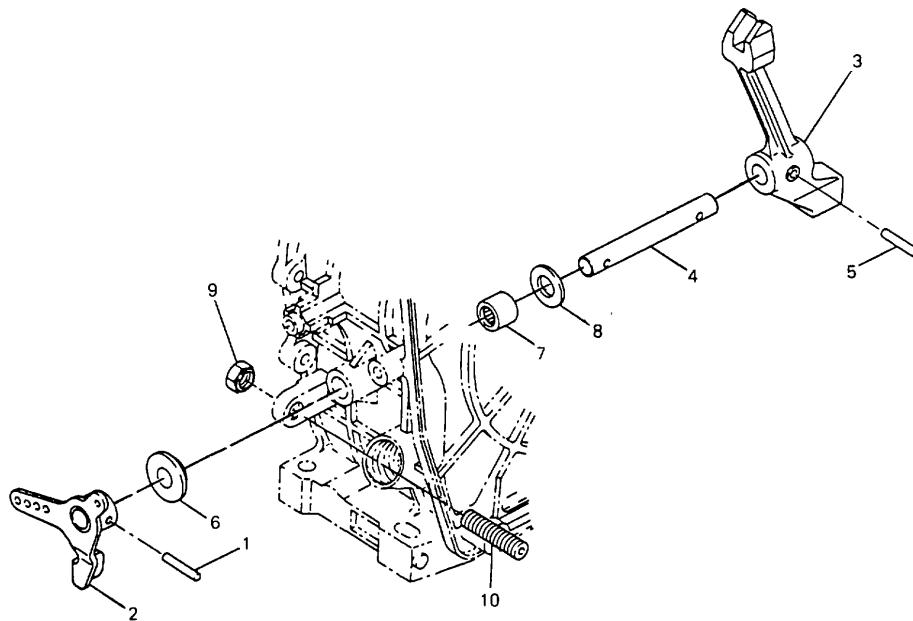

Figure 6-23. Governor Assembly
- (1) Remove throttle control inner wire (1) from the regulator lever (3).
- (2) Remove regulator spring (2) from the governor lever and regulator lever (3).
- (3) Remove return spring (4) from the governor lever and regulator lever (3).
- (4) Remove mounting bolts (5 and 6).
- (5) Remove regulator bracket (7) with regulator lever (3) attached.
- (6) Remove regulator coil spring (8).
- (7) Remove regulator lever (3) from regulator bracket (7) by unscrewing lever retainer (9) and self-locking nut (10).
b. Governor Assembly. Refer to Figure 6-23
- a. Governor Assembly. Refer to Figure 6-23.
- (1) Install fuel limiting adjustment (10) Into crankcase.
- (2) Install nut (9) onto fuel limiting adjustment (10).
- (3) Install needle bearing (7) into cylinder block.
- (4) Insert shaft (4) into governor control arm (3) and lock into position with taper pin (5).
- (5) Install governor control arm (3), shaft (4), and washer (8) into needle bearing in engine from the Inside.
- (6) Insert thrust bushing (6) onto shaft (4) In cylinder block.
- (7) Install control arm lever (2) onto shaft (4) and insert taper pin (1) into shaft.